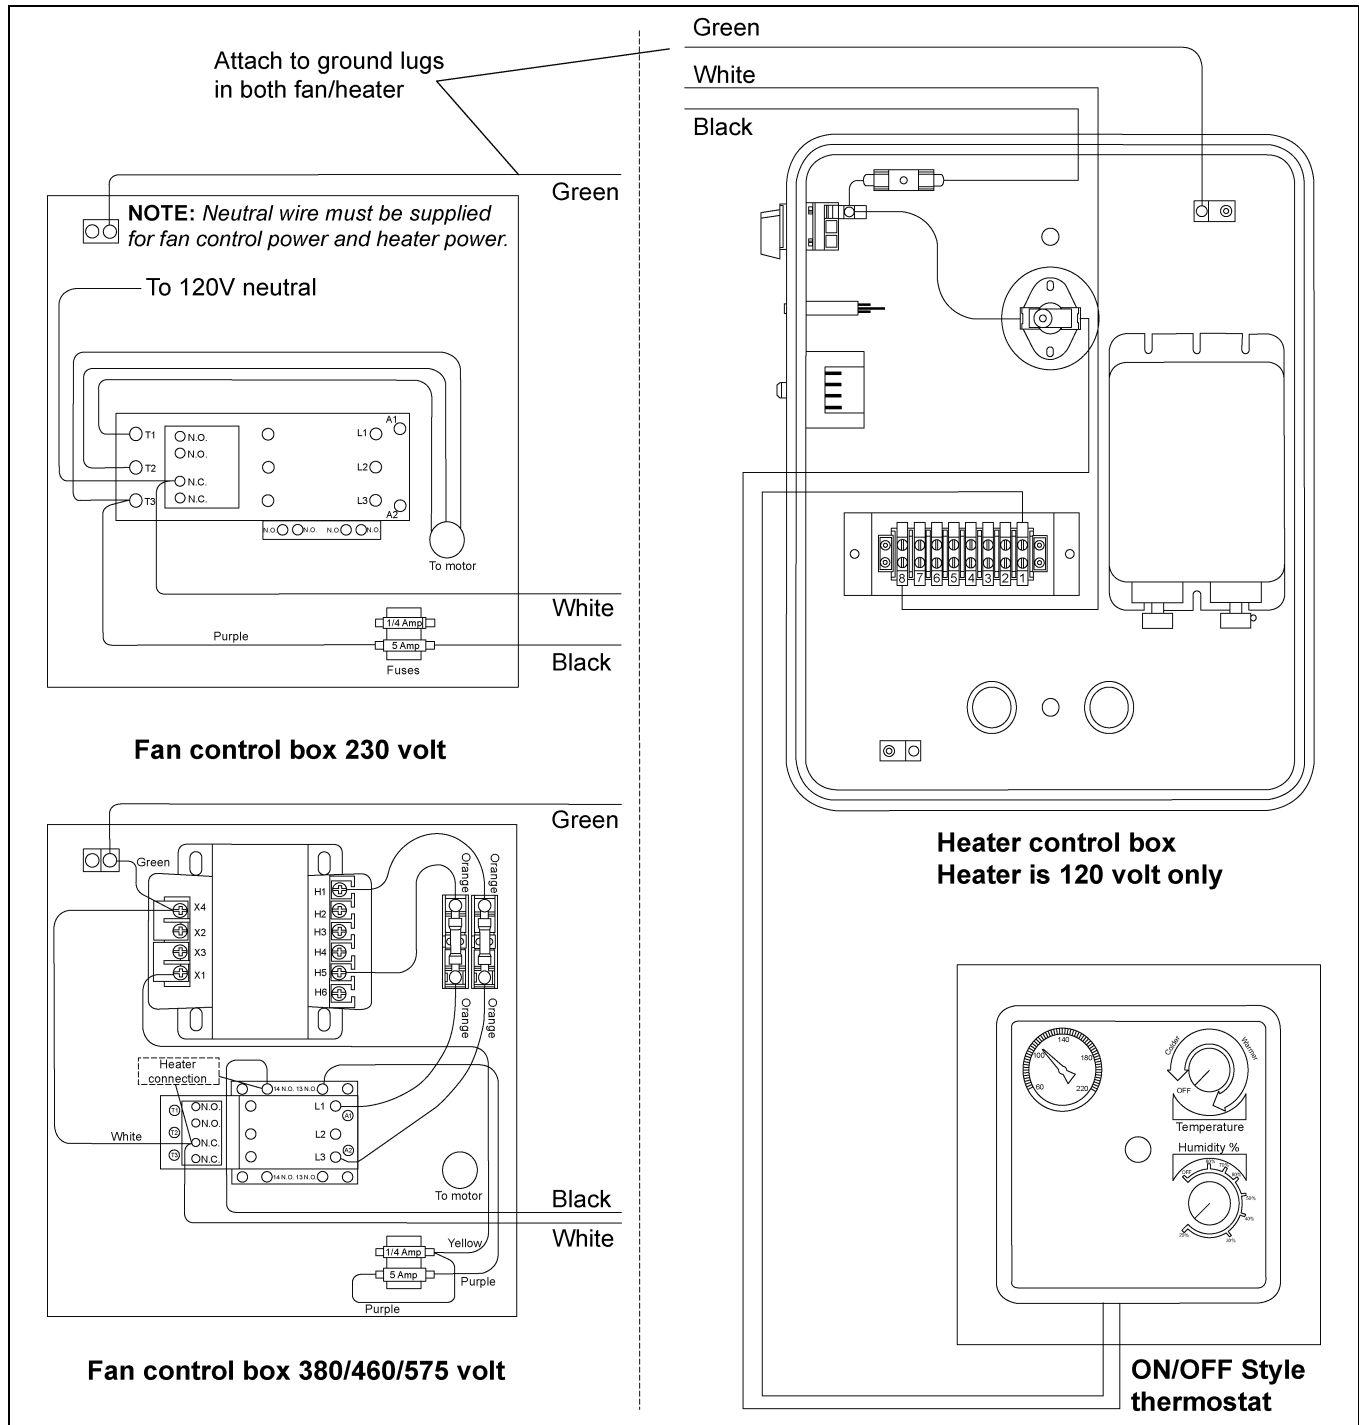

Figure 4A Heater Wiring Installation on a Fan Unit
2. Make field connections in fan box as shown in Figure 4A.
3. Connect deluxe thermostat control as shown in Figure 4A.